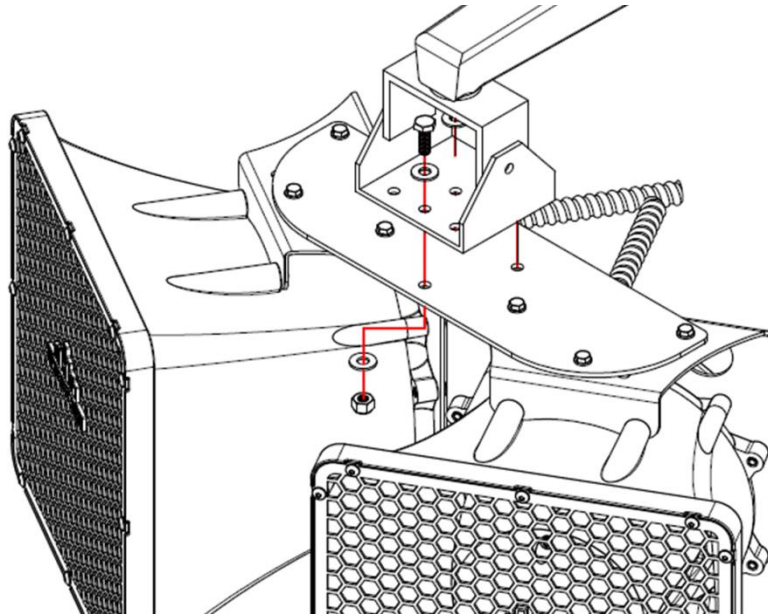

Figure 6: Attaching Dual Speaker System to a Wall Mounting Bracket
- 2) Attach the wall mount bracket to the middle holes of the dual mount plate with three 1/4-20 bolts (Figure 6).